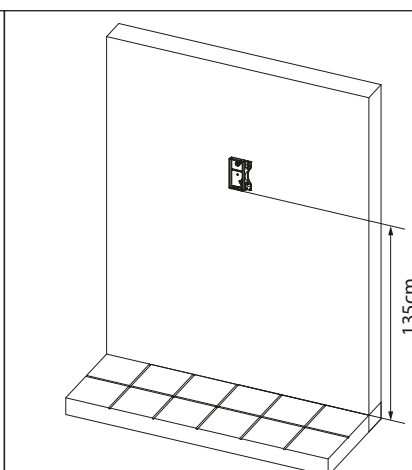
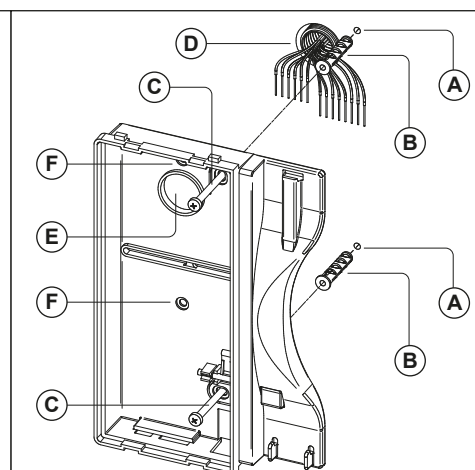

Fig. 2
Fig. 3
**In order to prevent water ingress we highly recommend using a silicon sealant between the plate and the wall (Fig. 3);**
2. Put the base of the unit on the wall at approx 135cm from the finished floor to mark the points for the fixing holes "A" (**Fig. 2**) remembering that the wires "D" (**Fig. 3**) must be fed through the hole "E" (**Fig. 3**). If you use the flush mounting box 503, embed it into the wall vertically at approx. 140cm from the finished floor and the base.
3. Following **Fig. 3**, make the holes "A", insert the wall plugs "B" and fix the base with the screws "C" feeding the wires "D" into the hole "E". If you have used the box 503, fix the base to the wall through the holes "F" using the screws "C".